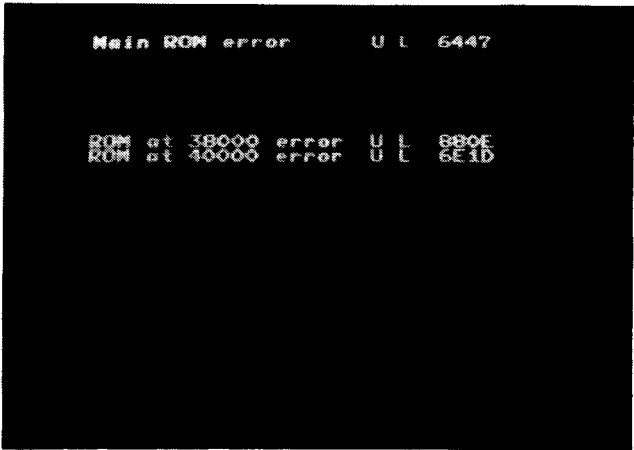

Figure 3-2 ROM Test Fails
If the ROM Test fails, error messages may appear in the top half of the screen as shown in Figure 3-2. If the upper (U) or lower (L) main memory ROM circuits on the Game PCB fail, a *Main ROM error U or L* message will appear at the top of the screen. Refer to Table 3-2 for the faulty upper or lower main memory ROM locations.